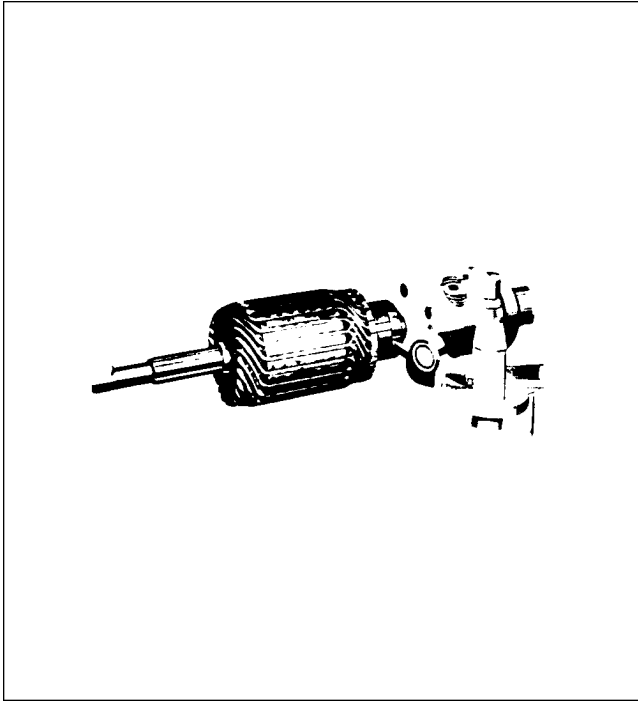

Figure 11-39. Turning Starting Motor Commutator
- Check the commutator for uneven wear, excessive glazing or evidence of excessive arcing. If only slightly dirty, glazed or discolored, the commutator can be cleaned with 00 to 000 sandpaper. If the commutator is rough or worn, it should be turned in a lathe. Refer to Figure 11-39. The armature shaft should be inspected for rough bearing surfaces and rough or damaged splines.